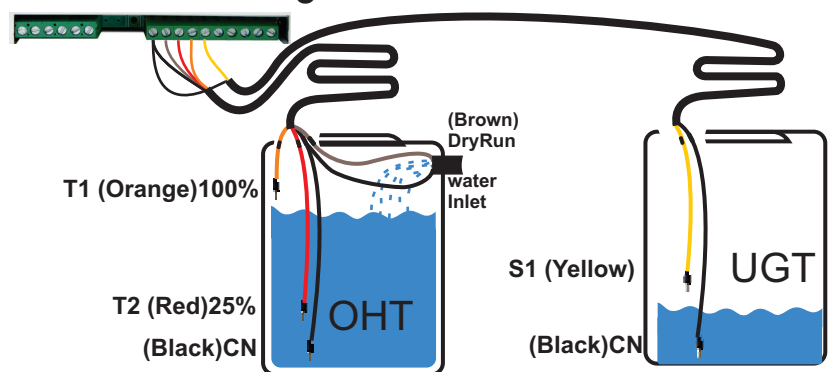

Figure4: sensor connection
Step 5: Lay 4 core cable between controller and Over Head Tank (OHT). Also lay 4 core cable between controller and Under Ground Tank (UGT). Join one end of the cables to sensor line connector of controller as per label. In tank side, **Contact type sensor connection:** Take the sensors and cut them according to the levels of tank and join them with the cable as per label coded. (Refer figure. 4) **Magnetic float sensor connections:** These Sensor has 2 wires, Use any one wire in each sensor as common. Other wires left in each can be used for levels. Join them with the cables as per label coded.
Step 6: Immerse the Sensors inside the OHT & UGT as per Figure 4, and tape it. Dry run sensor should be fixed in the inlet of the OHT. (Refer figure. 4) This completes installation.